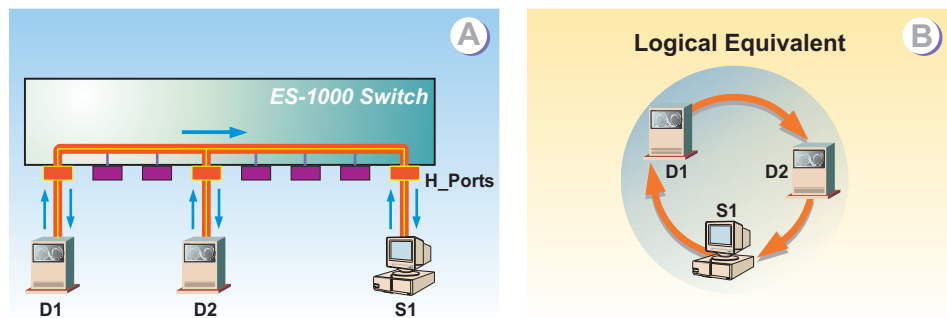

Figure 3-1 Shared Mode Operation and Logical Equivalent
When set to shared mode, a switch acts as a hub implementing standard Fibre Channel arbitrated loop topology (although the loop has the physical appearance of a star configuration) and distributes the frame routing function through each loop port. When a loop circuit is initialized and established, arbitration protocol ensures only one device attached to a hub port (H_Port) owns the loop at a time. The port establishes communication with another device attached to an H_Port and allows the devices to transmit or receive frames. During frame transmission between these devices, the full bandwidth of the switch is used and no other H_Ports or devices are available for connection. When frame transmission completes, the loop circuit closes and other devices are able to contend for operation (using standard loop arbitration). Shared mode operation and its simplified logical equivalent are illustrated in Figure 3-1.
Part (A) of Figure 3-1 shows device D_1 connected to server S_1 through a pair of H_Ports. Although the remaining switch H_Ports (six ports) and device D_2 are unavailable for connection, frame traffic between device D_1 and server S_1 travels through a loop that consists of all eight H_Ports, device D_1 , device D_2 , and server S_1 . Each H_Port not participating in the communication pair and the NL_Port on device D_2 provide a repeater function that allows frames to pass around the loop at the full switch bandwidth.
Part (B) of Figure 3-1 shows the logical equivalent of this arbitrated loop. When frame transmission between device D_1 and server S_1 completes, the loop circuit closes and other ports attached to initiating devices arbitrate for loop access. When operating in shared mode, the switch is a serially reusable resource that provides service access to all ports on the loop. Access is granted by successful arbitration. When arbitration is won by a device, the loop is busy and other arbitrating devices must wait for loop access.